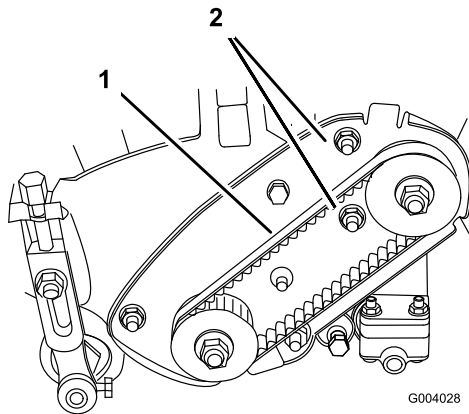

Figure 32
- A. Loosen the bearing housing mounting nuts (Figure 32).
- C. While holding the torque wrench setting, tighten the bearing housing mounting nuts (Figure 32). Do not over-tension belt.